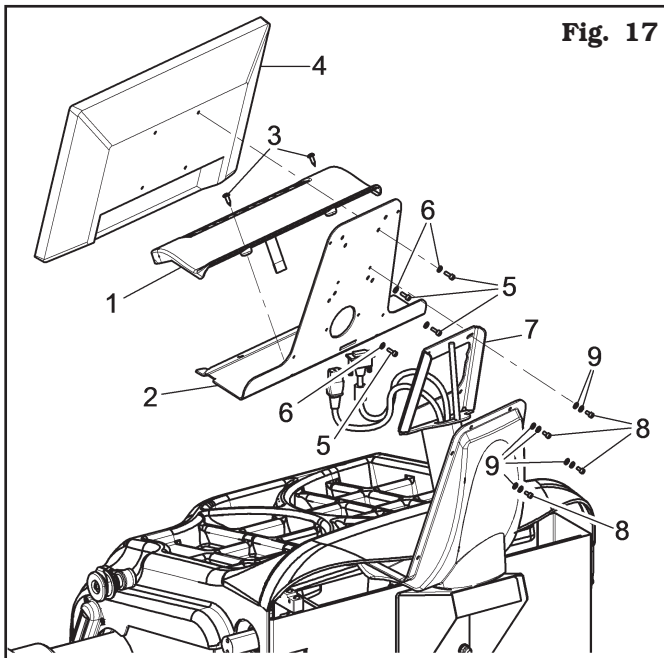

Fig. 17
- Fix the keyboard (**Fig. 17 ref. 1**) to the support (**Fig. 17 ref. 2**) using the screws (**Fig. 17 ref. 3**). Fix the monitor (**Fig. 17 ref. 4**) to the support (**Fig. 17 ref. 2**) with the screws (**Fig. 17 ref. 5**) and the washers (**Fig. 17 ref. 6**) supplied. Fix the support (**Fig. 17 ref. 2**) complete with monitor and keyboard, to monitor support (**Fig. 17 ref. 7**) with the screws (**Fig. 17 ref. 8**) and the washers (**Fig. 17 ref. 9**) supplied.